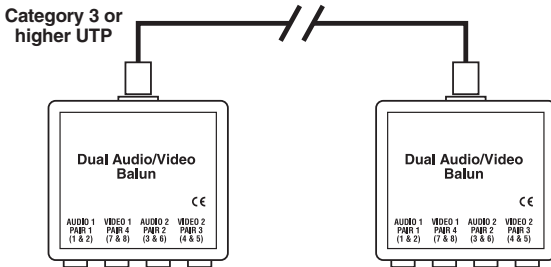

Figure 3-2. Two baluns cabled together.
- Plug the other end of each UTP cable into the appropriate video wall outlet or patch panel. When this is done, a complete cabling circuit should run between the two baluns, as shown in Figure 3-2.